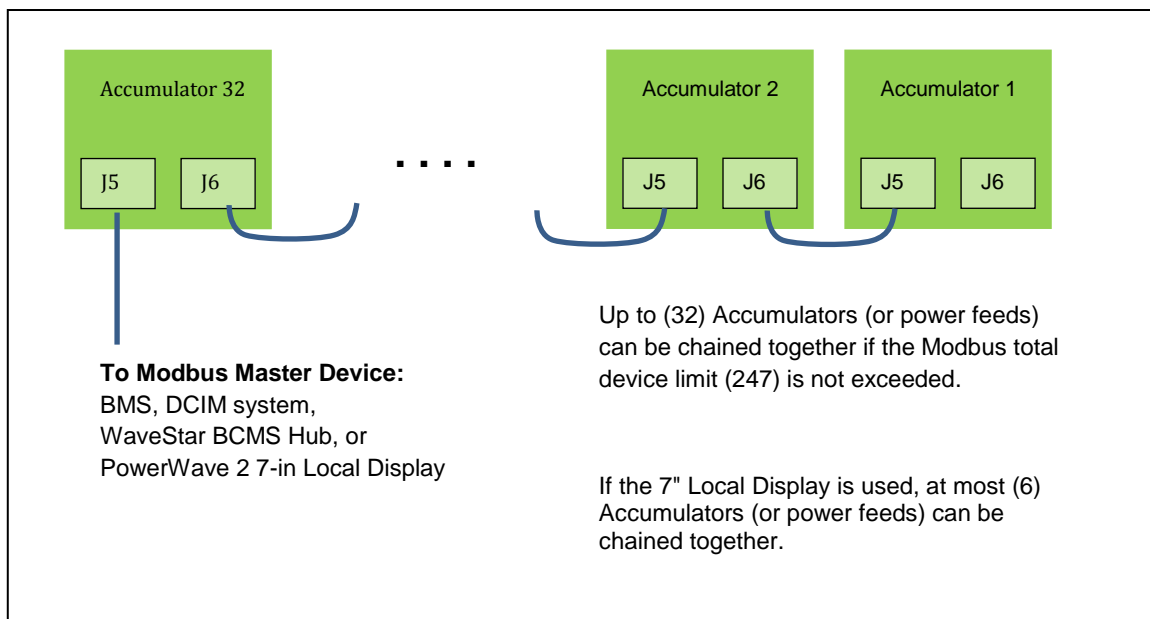

Figure 3 Daisy-chaining Accumulators
An Accumulator has two (2) RS 485 connectors for Modbus RTU device chaining (see Figure 2, Steps 4-5 and Figure 3). For chaining Accumulators: